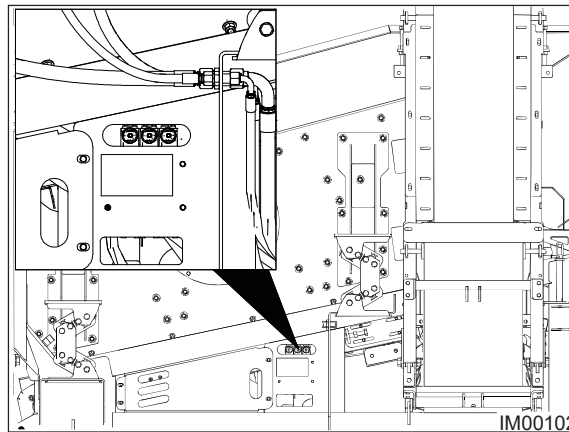

Fig: 7.12 - Control Levers
4. Proceed to the control levers located on the left-hand side of the machine (Fig: 7.12).